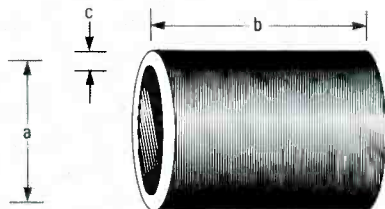

FIG. 1—THE INDUCTANCE of a coil is determined by its physical parameters (a, b, and c) and the number of turns
But a coil having a specific length, and shape produces a specific magnetic field (see Fig. 1). To increase the magnetic field, it's necessary to increase the current flowing in the wire by increasing the voltage applied across the coil.
- L = inductance in microhenries and as shown in Fig. 1: